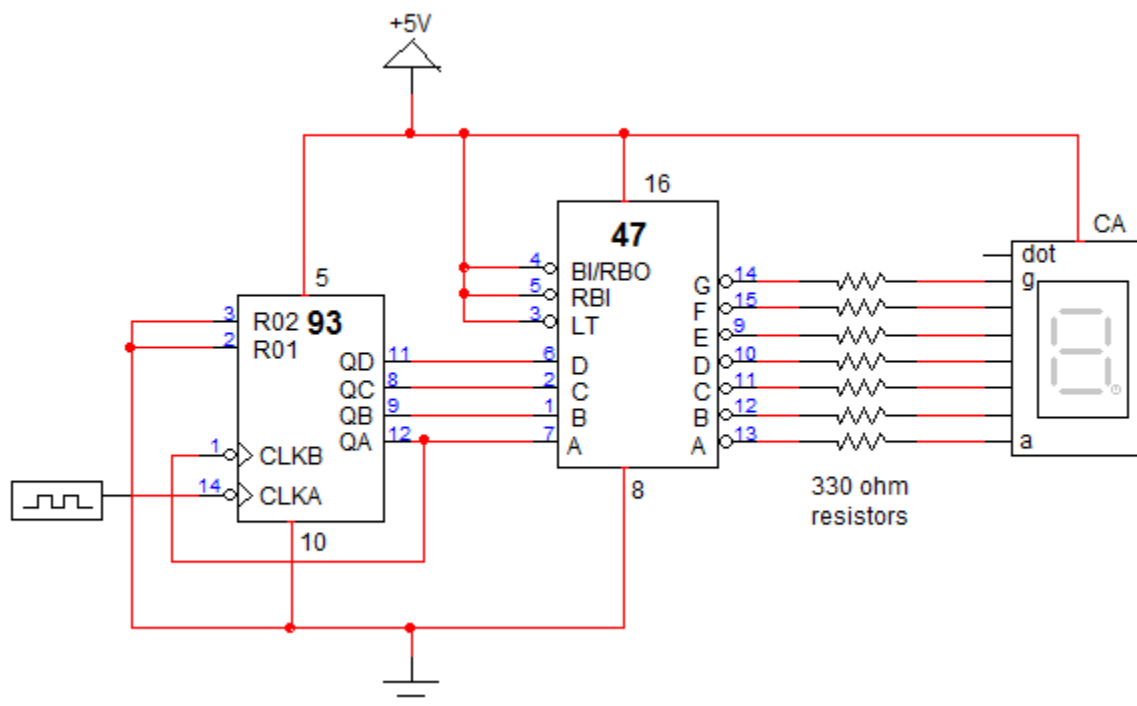

Figure 4. Binary Counter Circuit
1. Build the binary counter given in figure 4. Check the binary counting sequence on 7-segment display. What do you think about the reason of insignificant symbols occurred on display?